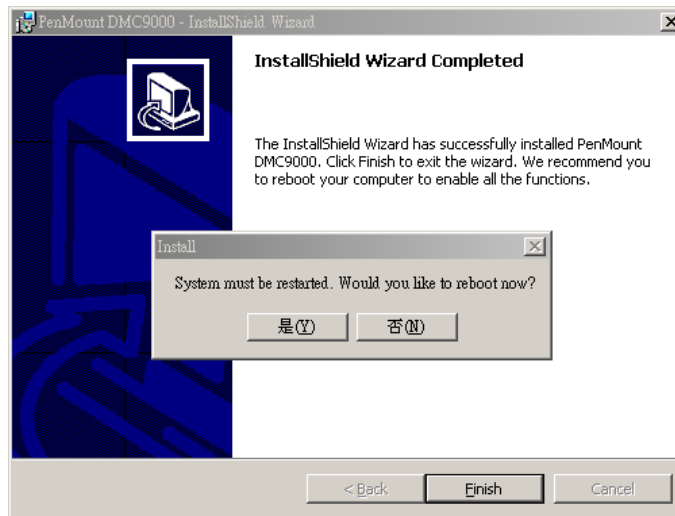

Figure 7-28: Reboot the Computer
Step 7: The user is then prompted to select to restart the computer now or later (Figure 7-28). For the settings to take effect, the computer must be restarted. Click **Yes** to restart the computer.